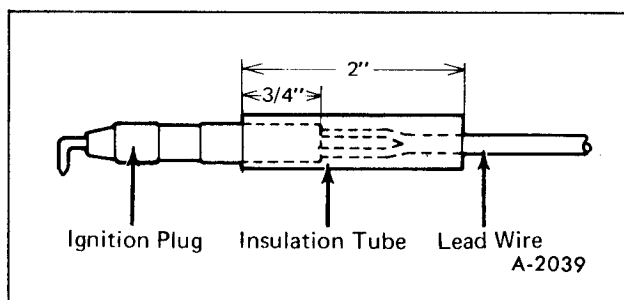

Figure 13—Fitting Shrink Tube on Ignition Plug
2. Place new shrink tube over ignition plug and position as shown in Figure 13.